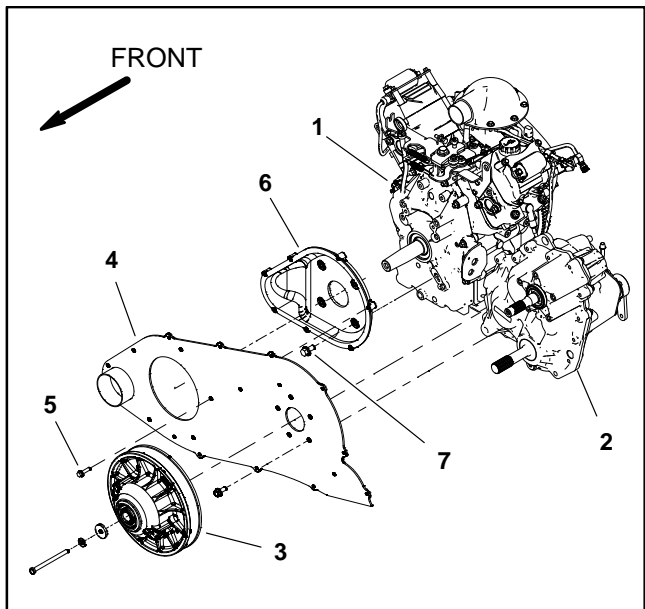

Figure 24
18. If necessary, remove air inlet housing from engine (Fig. 24).
4. If removed, secure air inlet housing to engine (Fig. 24).
7. While moving the engine toward the spanner plate to prevent distortion of the spanner plate, secure spanner plate to air inlet housing with five (5) washer head screws (Fig. 24). Do not install screws in the two (2) holes closest to the air intake end of the spanner plate. These holes will be used to secure the CVT enclosure cover.